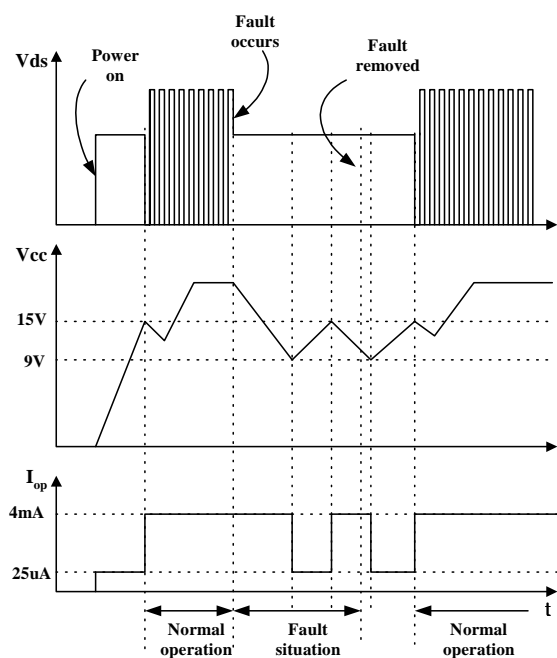

Figure 12. Auto restart mode protection
-Auto-restart mode protection: Once the fault condition is detected, switching is terminated and the Sense FET remains off. This causes V_{cc} to fall. When V_{cc} falls down to the under voltage lockout (UVLO) stop voltage of 9V, the protection is reset and FSCQ1565RT consumes only startup current (25uA). Then, V_{cc} capacitor is charged up, since the current supplied through the startup resistor is larger than the current that FPS consumes. When V_{cc} reaches the start voltage of 15V, FSCQ1565RT resumes its normal operation. If the fault condition is not removed, the SenseFET remains off and V_{cc} drops to stop voltage again. In this manner, the auto-restart can alternately enable and disable the switching of the power Sense FET until the fault condition is eliminated (see Figure 12).